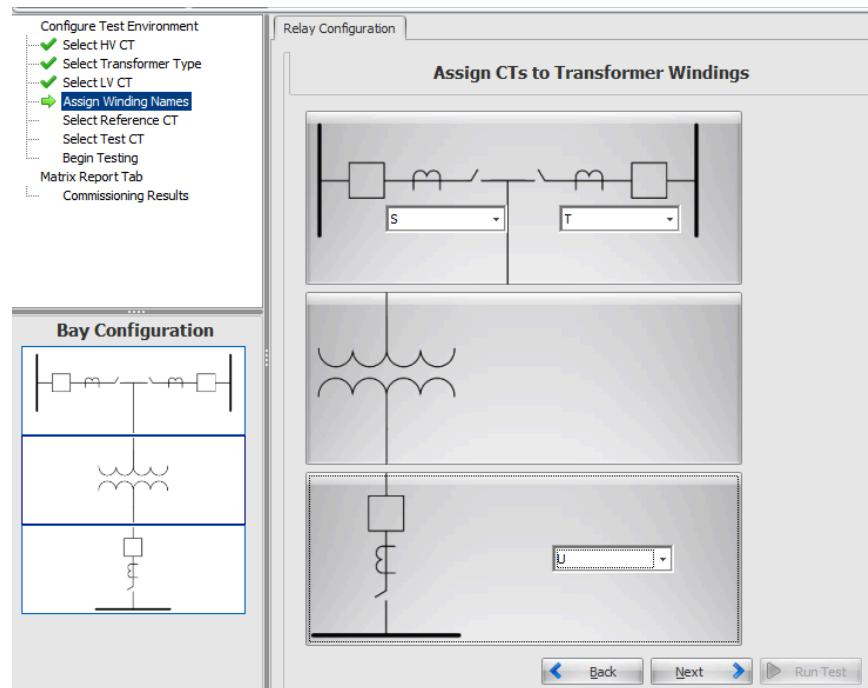

Figure 7.33 Completed CT Assignment
Step 9. Similarly, assign Terminal U to the LV CT (CTU), as shown in *Figure 7.33*.